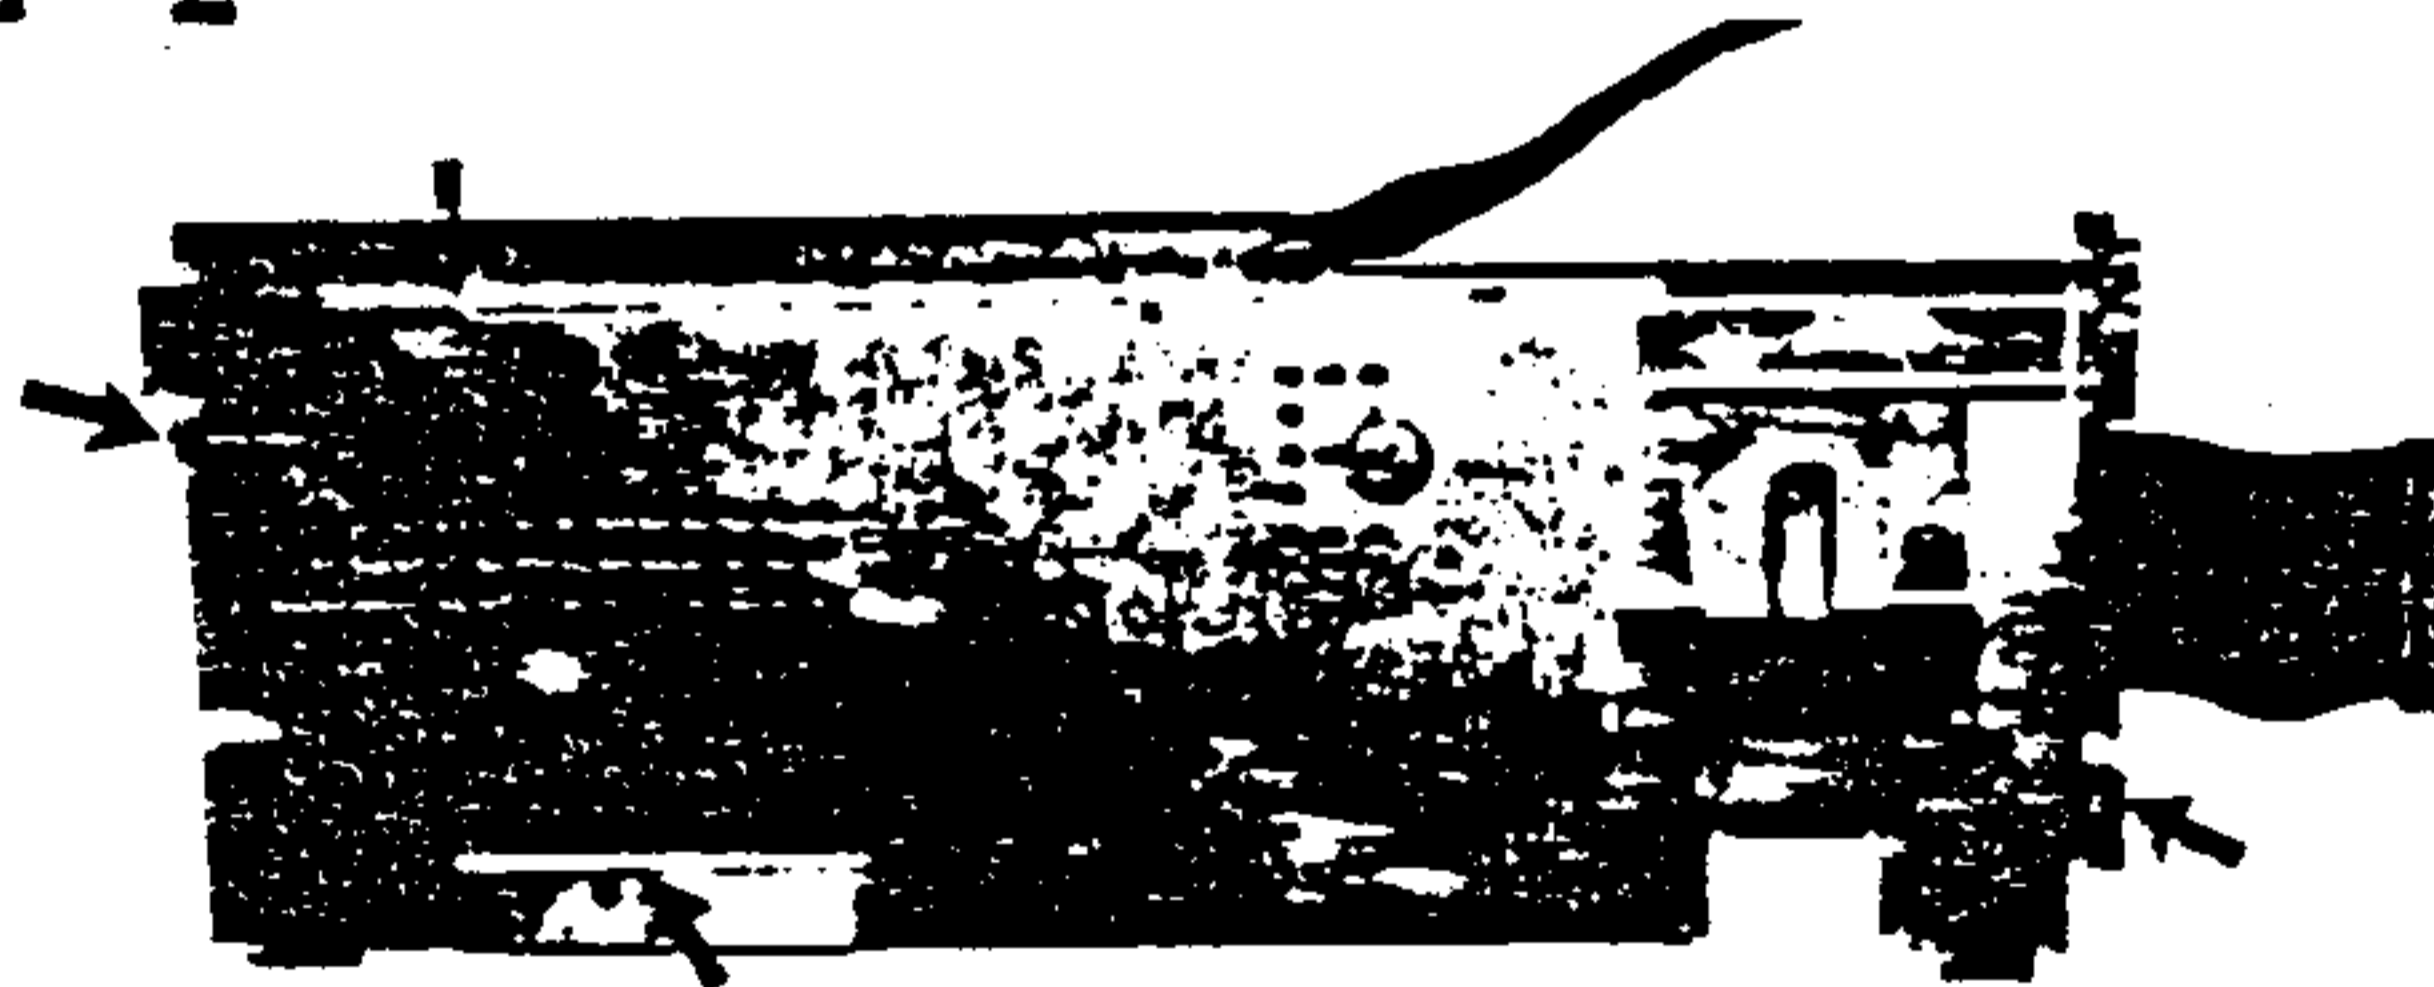

FIG 3
7. NOW REMOVE THE PC-BOARD, AND REMOVE THE REST OF THE SHIELD (FIG.3)